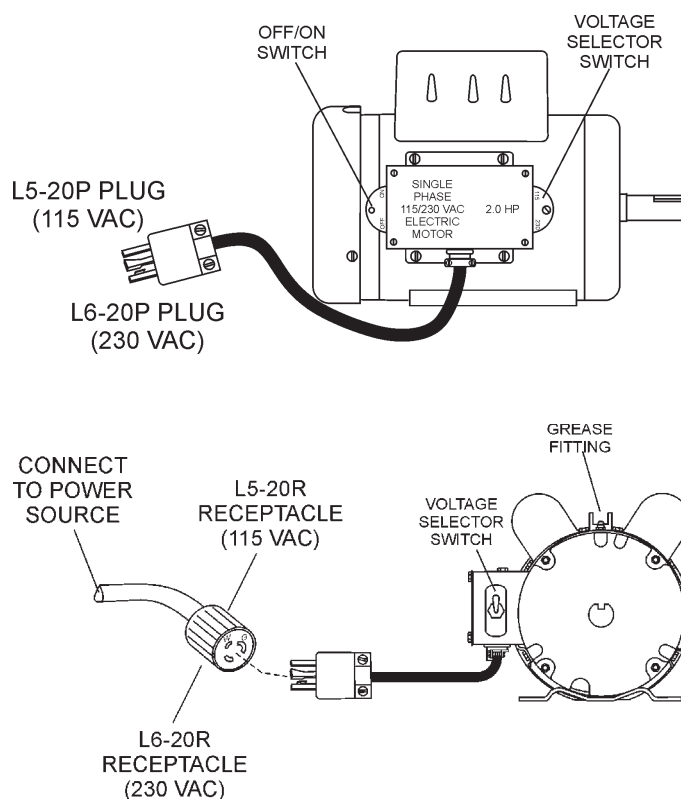

Figure 7. Single Phase Electric Motor With 12-inch Pigtail
A 12-inch electrical cable (Figure 7) is provided with the electrical motor for hookup to a power source. Table 5 shows the required NEMA connector for the desired motor horsepower rating. In addition, Table 5 also shows the matching NEMA approved connector for the required extension cord.
2. Remove the voltage lock-out bolt (Figure 7). Change the position of the **voltage change toggle switch** from 115 VAC to 230 VAC. The mixer is factory wired for 115 VAC operation.